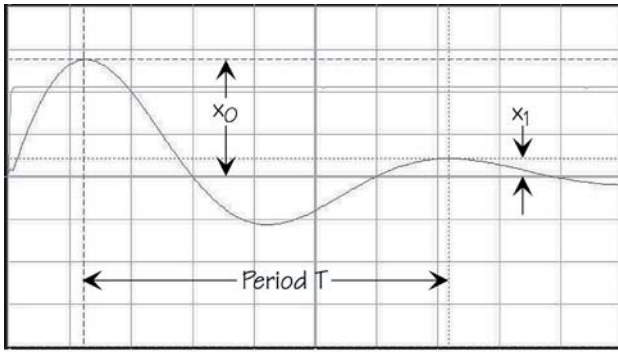

Fig. 3—Parameter measurement
3. Use all three methods above to measure the period. Record your results. Figure 3 shows how the third method was carried out. Average the three readings to get the period T .